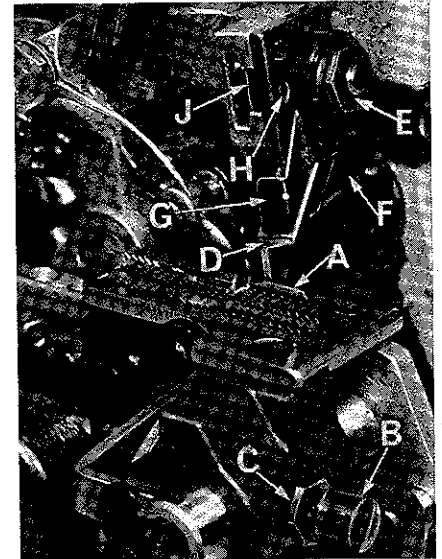

Fig. 13
Replace lower knife holder assembly. Lower knife (A, Fig. 13) should be set with cutting edge flush with throat plate surface. Adjustments are made with hexagonal head screw which holds lower knife. Lower knife is spring pressed against upper knife, so no lateral adjustment is necessary when width of trim is changed.
Replace upper knife assembly. Clamp upper knife (D, Fig. 13) in position, setting nut (E) to hold clamp (F) in its most clockwise position against upper knife. At bottom of its stroke, front cutting edge of upper knife should extend not less than $1/64$ inch below cutting edge of lower knife. The chain guard (G) should be set down against the upper knife and slightly back from the cutting edge.